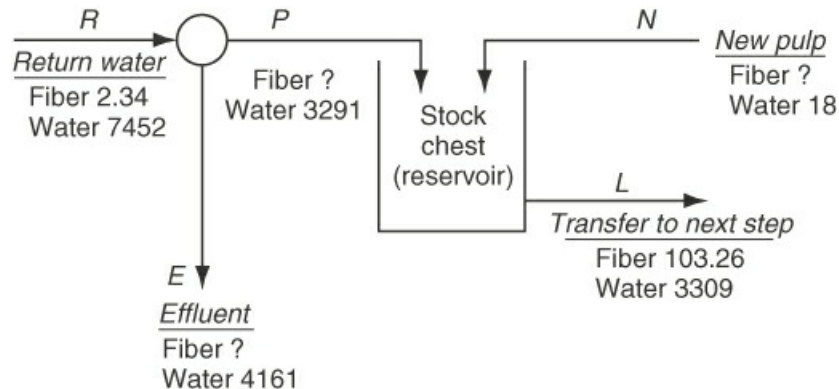

Figure P5.2.4
****5.2.4** In a tissue paper machine (Figure P5.2.4), stream N contains 85% fiber. Find the unknown fiber values (all values in the figure are in kilograms) in kilograms for each stream.